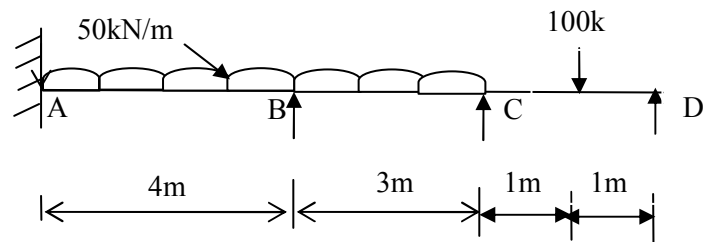

Fig. 7 Q. 5 (b) OR
- (b)** Draw bending moment diagram for the continuous beam shown in Fig.7. Use moment distribution method. 07